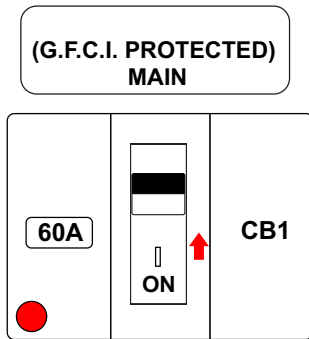

Figure 85. Main Circuit Breaker ON (GFCI Test)
- Place the main circuit breaker, CB1 (Figure 85) in the **ON** position within 5 seconds after pressing the **RESET** button on the GFCI sensing module.